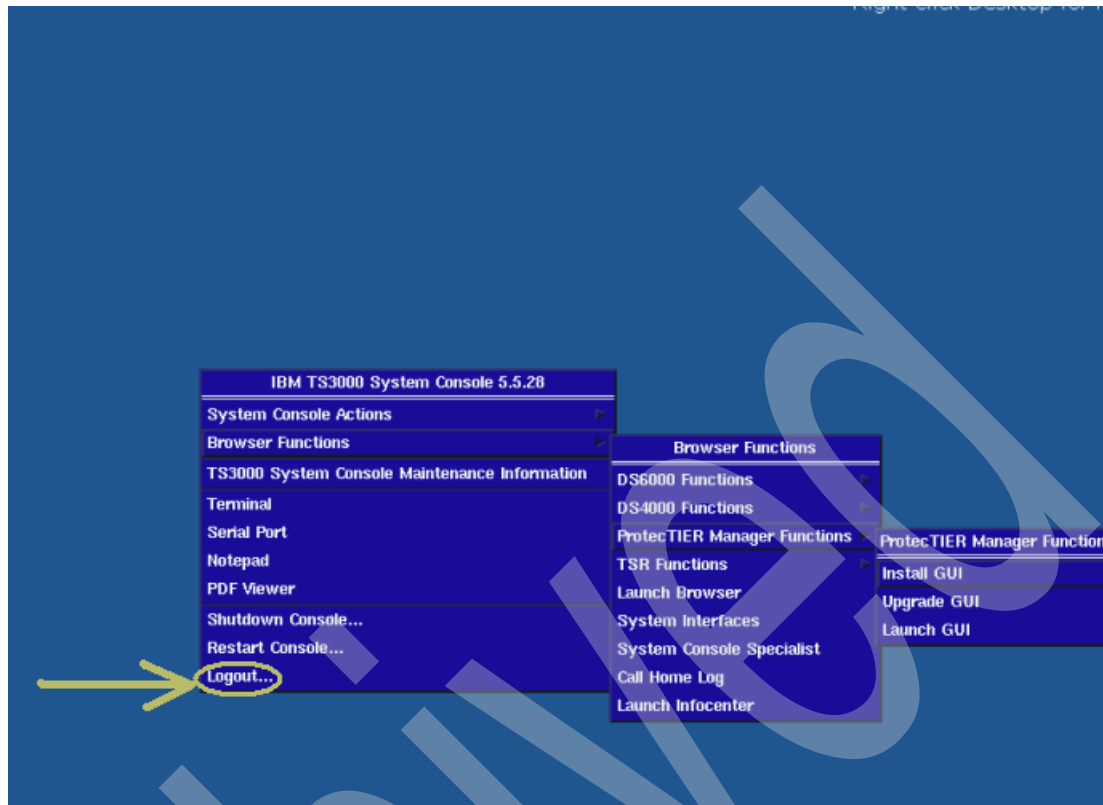

Figure 8-9 TSSC Logout
- b. Select **Logout**. The Login window displays (Figure 8-9).